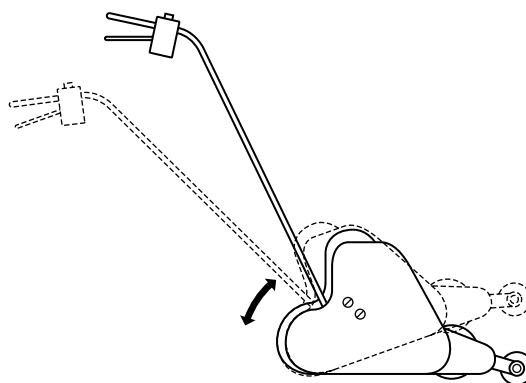

Fig. 11
(c) When a downward force is applied to the handle, the lower part of the lawnmower will pivot on the rear roller, lifting the blades and front roller as shown in Fig. 11. This allows the lawnmower to be lifted easily over obstacles.
(ii) Mark the position of the load (L), effort (E) and fulcrum (F) on Fig. 11.